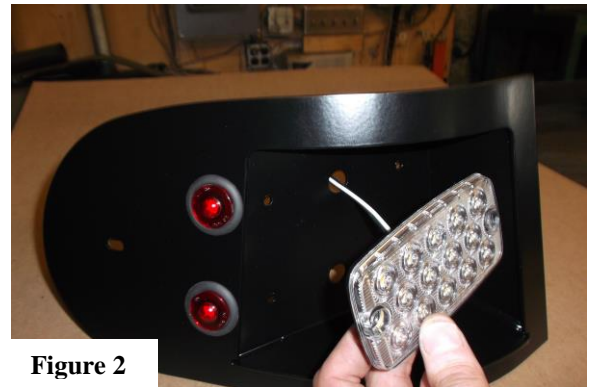

Figure 2
- b. Next, mount 1 Red rectangular S/T/T light, and 1 White rectangular Reverse light in the undercut portion of the fixture as shown with the provided screws and nuts (you may choose your configuration, with the reverse on the top, or reverse on the bottom, the lights are interchangeable with the mounting locations.) Again, thread the wires through the holes provided from the outside of the fixture as shown in **Figure 2**. The holes in the fixture may be tight due to the powder coat, if so, you should be able to screw them through before placing the nut on the back side. **Tamper resistant screw covers are provided, which are one-time use caps. Do not install these caps until after you are completely satisfied with placement/configuration of your lights. You may also choose to not use the caps at all if that is your preference.**